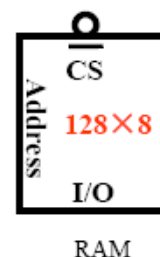

Fig. 5
5. Use 128×8 RAMs and a 2-line-to-4-line decoder to implement a 512×8 memory. Please provide the design diagram. See Fig.5 for the logic diagram of a 128×8 RAM. (10 points)